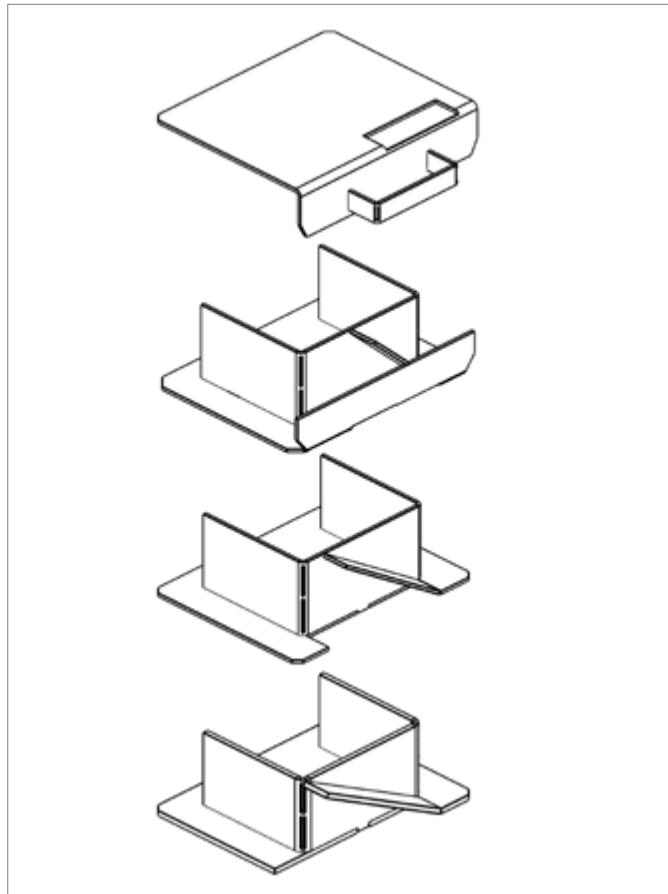

Figure 4-9: Re-fitting baffles into boiler shell
18. Re-fit baffles into boiler shell – ensuring they are in the correct order (check marking on each baffle) as shown in Figure 4-9.